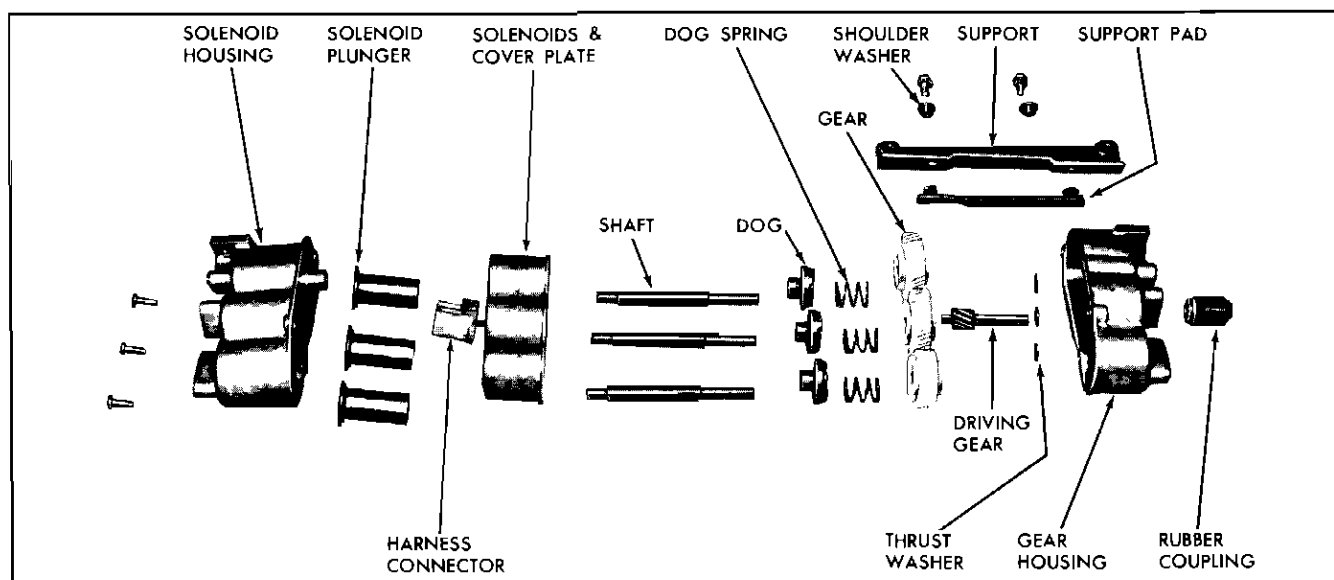

Fig. 5-5 Six-Way Seat Transmission Assembly
3. Remove screws securing gear housing to the solenoid housing; then, carefully separate housings and remove component parts of transmission assembly. (Fig. 5-5)
4. To assemble transmission, reverse removal procedure. Fig. 5-5 is an exploded view of disassembled transmission showing parts in proper relationship for installation.